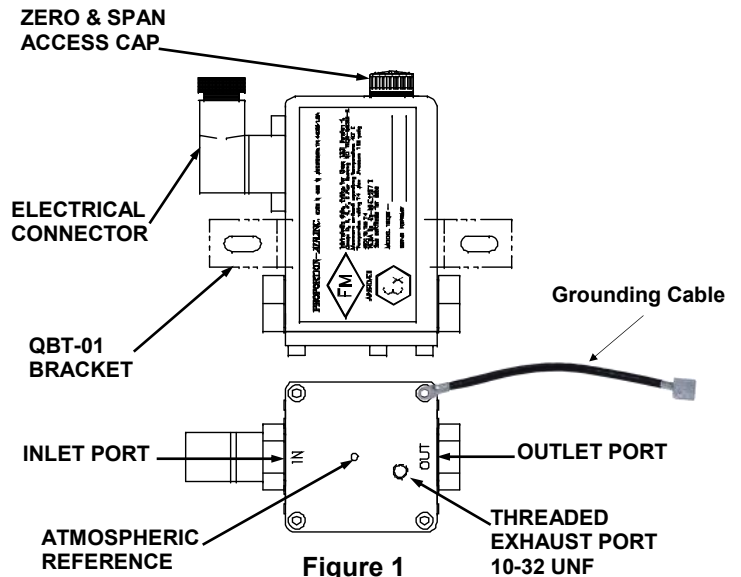
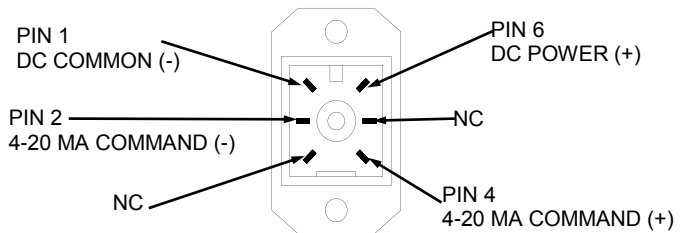

Figure 1
Figure 2
2. Connect supply pressure to the “IN” INLET PORT (figure 1). See Table 1 for maximum supply pressure.
3. Connect the “OUT” OUTLET PORT (figure 1) to the device being controlled.
4. Media vents through exhaust port. If the media is hazardous (classified), the threaded exhaust port (figure 1) should be vented to a different location to maintain a Class I, Division 2 area at the ISF unit.
2. Figure 1 shows the location of the ISF1 electrical connector and figure 2 shows the connector. Table 2 identifies each connection
4. Connect ground wire to intrinsically safe ground (figure 1).
3. Provide supply pressure to the INLET PORT of the ISQB1. (See figure 1). Make sure supply pressure does not exceed the rating for the valve. (see table 1)
4. Remove the zero and span plug on top of the ISF1 to access the ZERO and SPAN adjustment potentiometers (figure 1).